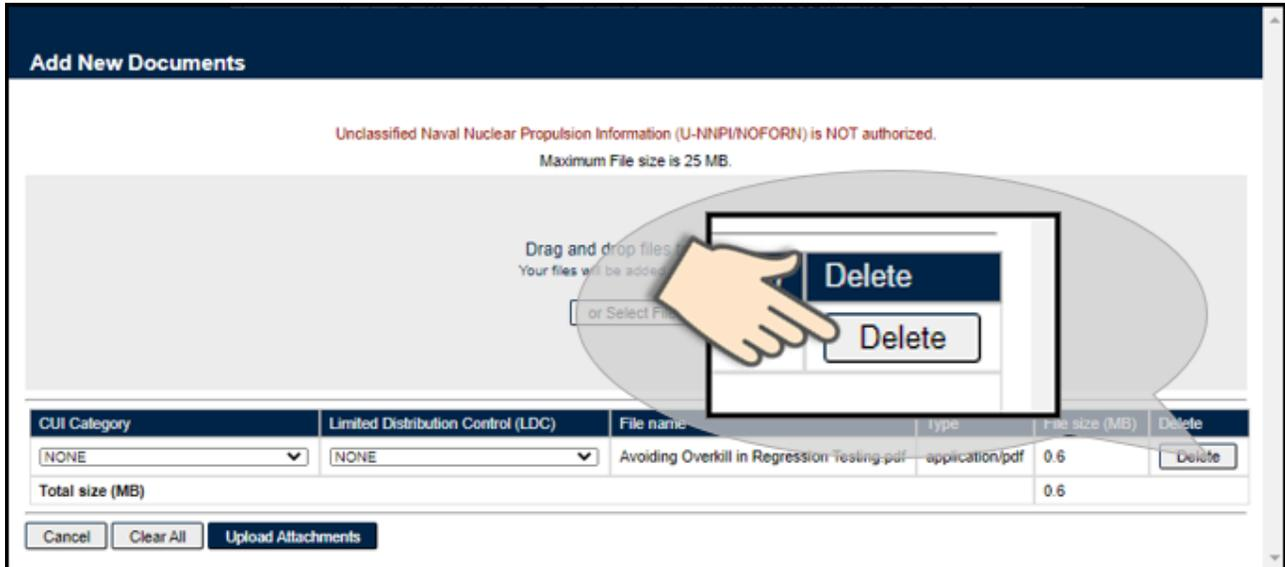
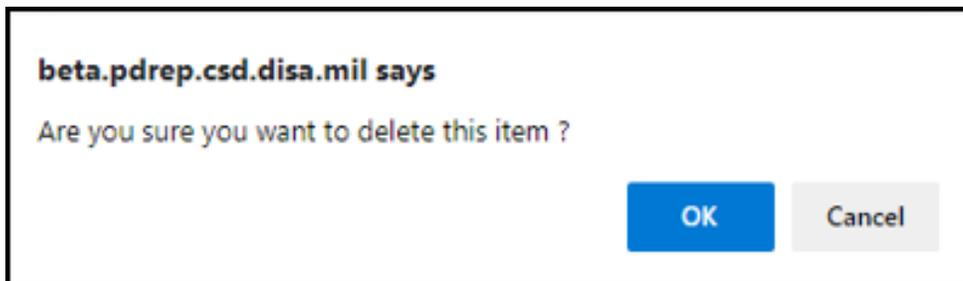

Figure 2.8
Figure 2.9
- D. If you have uploaded a file in error, you may delete it from the record by selecting the *Delete* button (see **Figure 2.8** and **Figure 2.9**). A notification box will populate asking for confirmation for the file to be deleted. *OK* is defaulted.